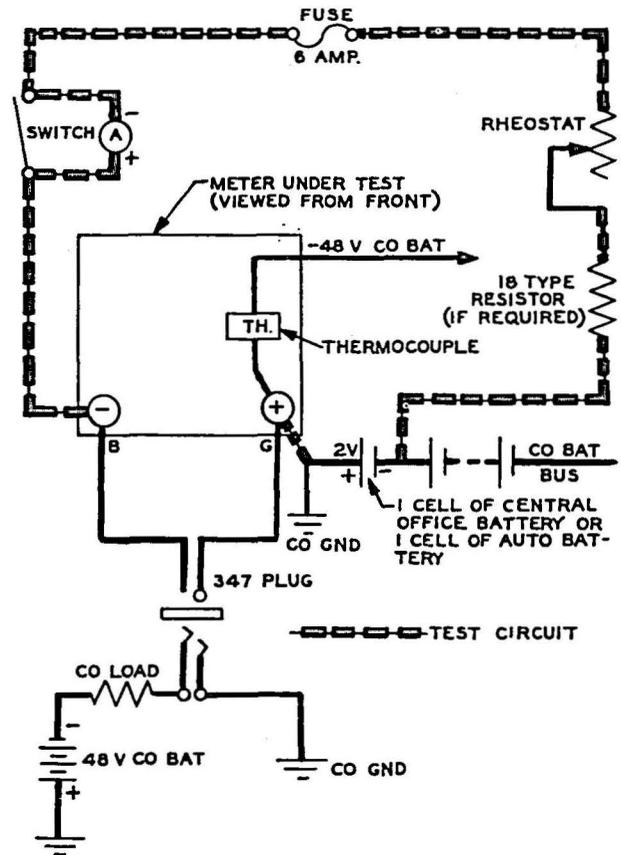

Fig. 2 - Test Circuit for KS-14399
the jack to maintain continuity of service. Connect in series, one cell of the central office battery or a storage battery, the No. 281 ammeter of appropriate range, a fuse, a switch, and a suitable rheostat (see 3.003) to the main terminals of the meter as shown in Fig. 2. Connect central office ground to the positive terminal of the ampere-minute meter. Use wire of a size adequate to carry the current. Battery clips may be used for connections.
2. To omit old Fig. 2.